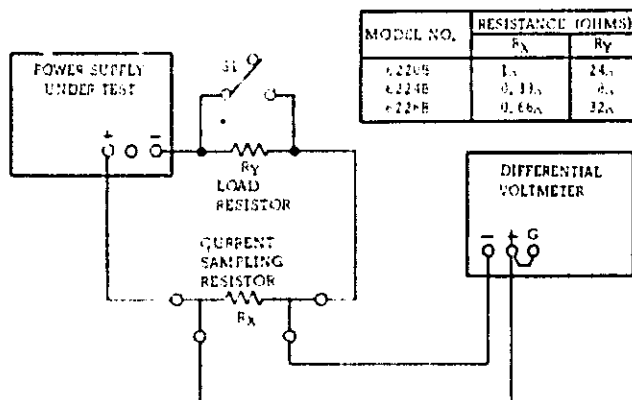

Figure 5-4. Output Current, Test Setup
- a. Connect test setup as shown in Figure 5-4 leaving switch S1 open.
- a. Connect test setup as shown in Figure 5-4.